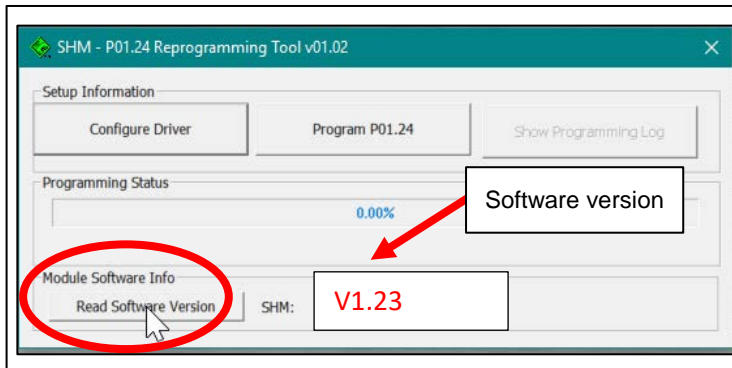

Figure 6: Configuring the Driver
8. Click *Read Software Version* to confirm the connection to the bus and the current software level, for example, 1.23 or 1.22 will be displayed in the *SHM:* field. See **Figure 6**.